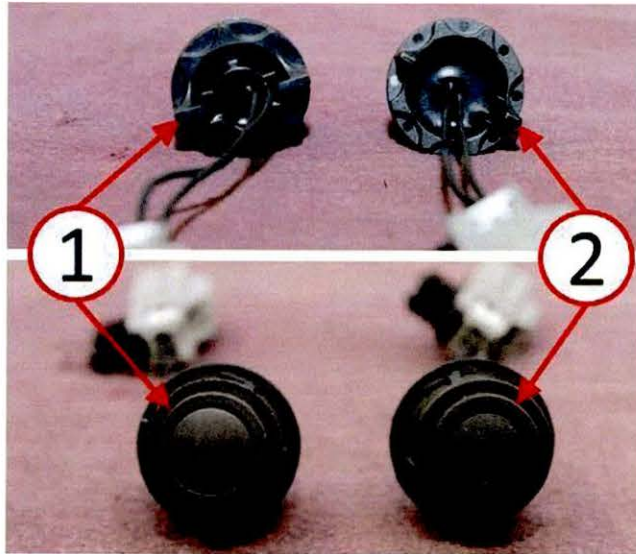

Fig. 4 Switch Version
5. Replace previous version plastic button passive entry switch (1) with new version rubber button passive entry switch (2) (Fig. 4).